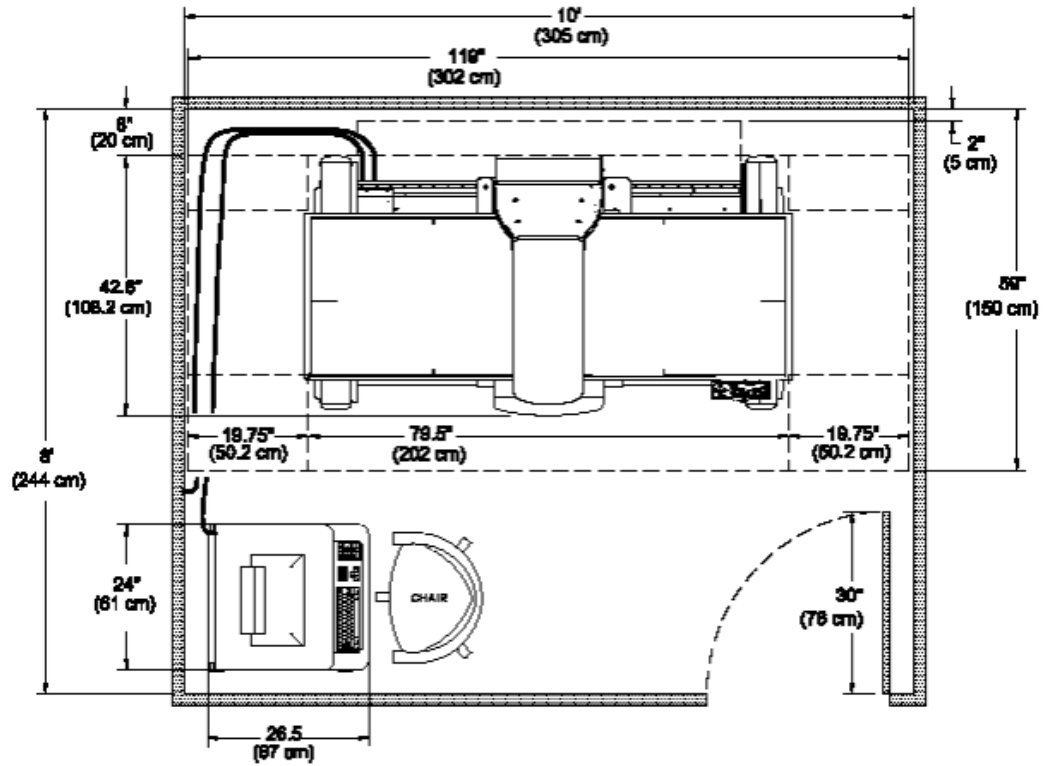

Figure 1: Horizon A
- Figure 1: Horizon A
Figure 1 provides the weight, area, and floor loading specifications for the Horizon series.